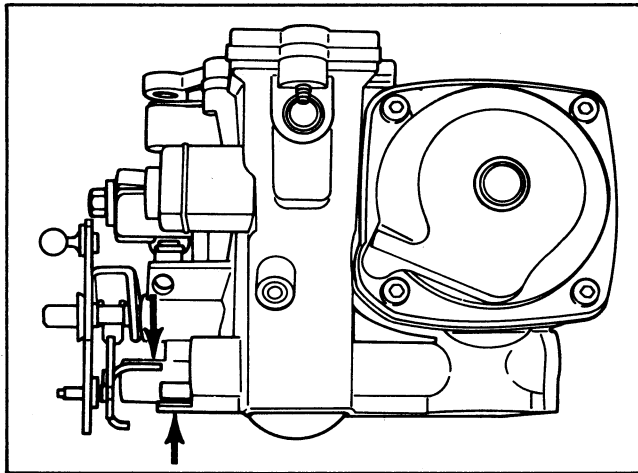

FIG. 2 Throttle Control Rod
2. Check the gap between the carburetor throttle shaft lever and its maximum open position stop (Figure 2). It should be $3/8$ to $7/16$ inch wide for variable Venturi carburetors, and $1/32$ to $1/16$ of an inch for other carburetors.